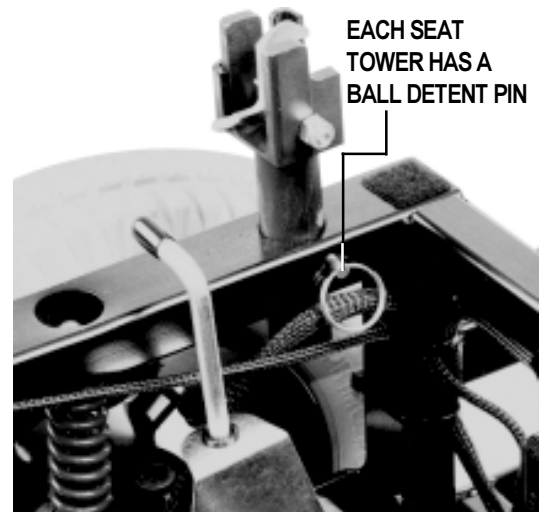

Figure 13. Seat Tower Ball Detent Pin
3. Remove the ball detent pin from each seat tower. See figure 13.